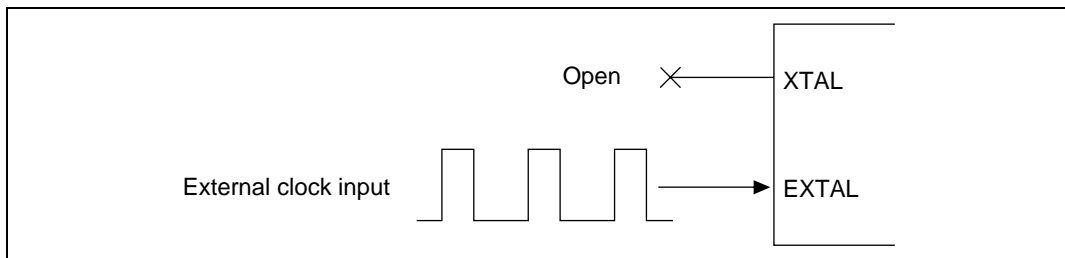

Figure 7.4 External Clock Input Method
An external clock signal can be input at the EXTAL pin as shown in figure 7.4. The XTAL pin should be left open. The frequency must be equal to the system clock (CK) frequency. The specifications for the waveform of the external clock input are given below. Make the external clock frequency the same as the system clock (CK).